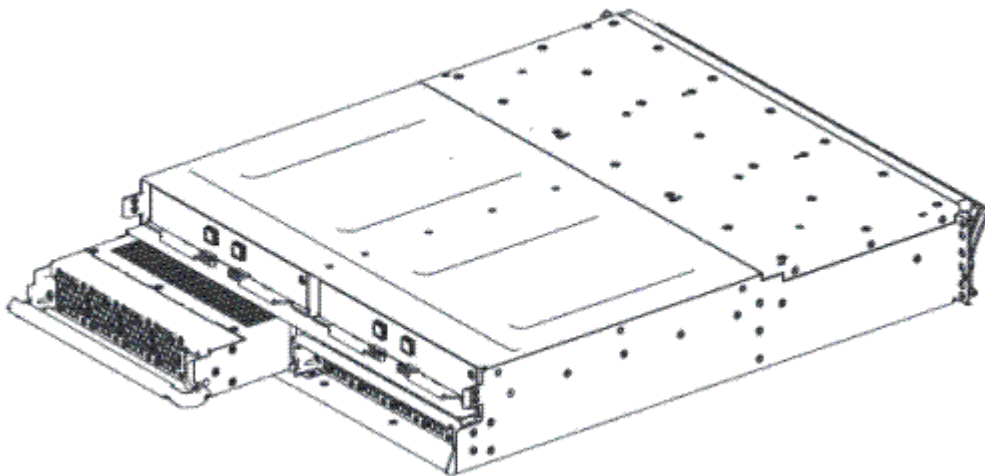

Figure 80. Removing the power supply unit from the left side of the expansion enclosure
5. Using the handle, gently slide the power supply out of the enclosure, as shown in Figure 80 on page 143.